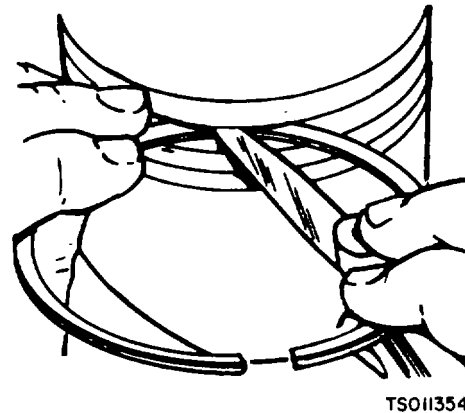

Figure 6-21. Inspecting Ring Lands Figure
c. (2) Inspect piston for cracks, breaks, and scored condition. Inspect clearances between piston pin and piston. Piston pin is a thumb push fit. If piston is excessively loose on piston pin, install a new piston pin. Inspect clearance between piston and cylinder wall. Position piston in cylinder. Clearance between piston and cylinder measured below oil controlling ring, 90degrees from pin, should be 0.0025 to 0.0045inch
(3) Inspect the piston for fractures at the ring lands, skirts and pin bosses. Check for wear at the ring land using new rings and a feeler gauge as shown in figure 6-21.